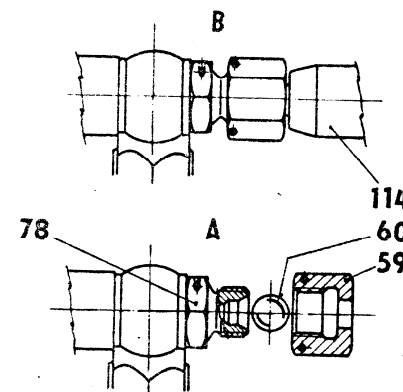

Figure 11-34 Manometer connection
(2) Relief valve adjustment check - see figure 11-34